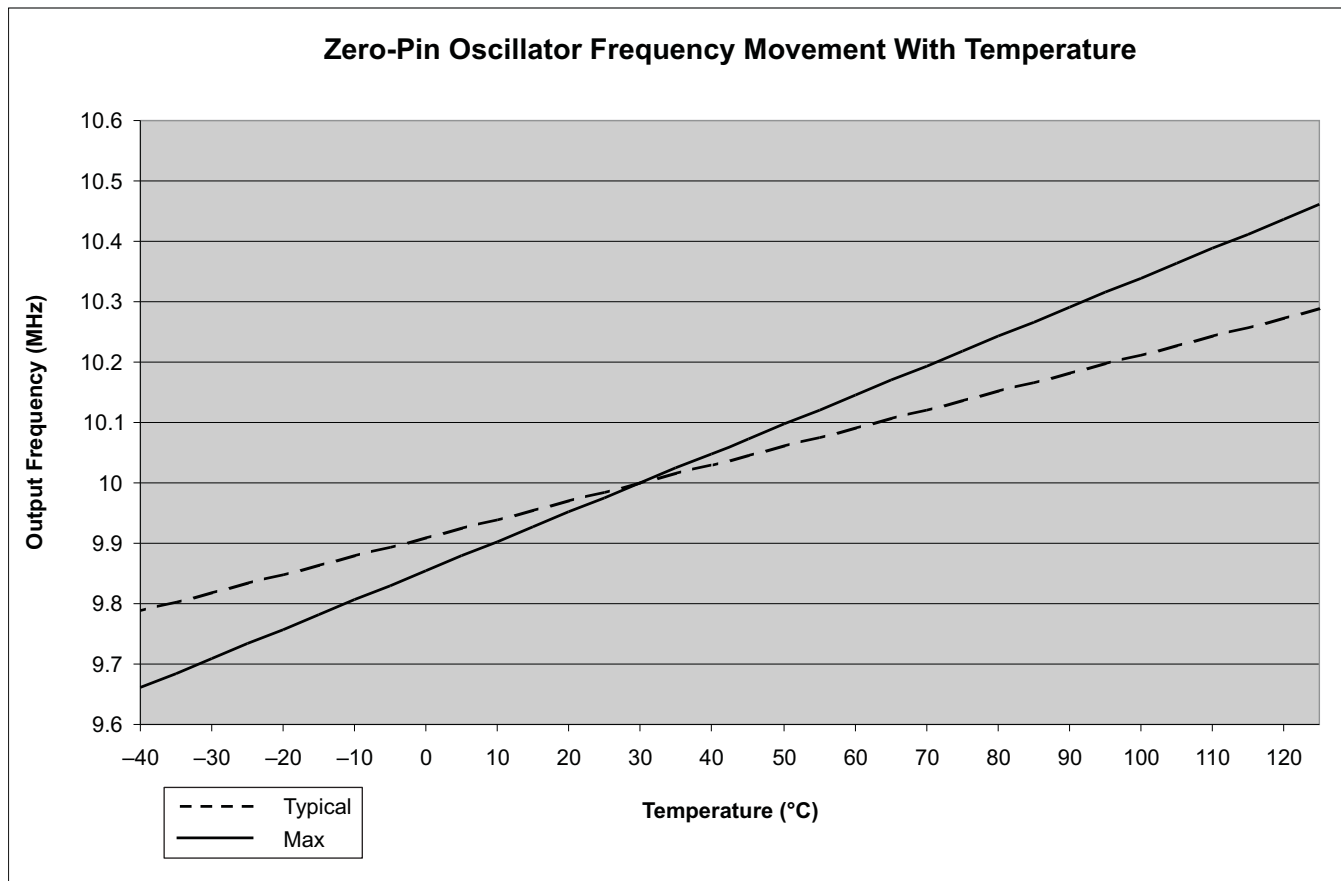

Figure 5-9. Zero-Pin Oscillator Frequency Movement With Temperature
- (1) To achieve better oscillator accuracy (10 MHz ± 1% or better) than shown, see the Oscillator Compensation Guide. See Figure 5-9 for TYP and MAX values.
- (2) Frequency range is ensured only when VREG is enabled, $\overline{VREGENZ} = V_{SS}$.
- (3) Output frequency of the internal oscillators follows the direction of both the temperature gradient and voltage (V_{DD}) gradient. For example: